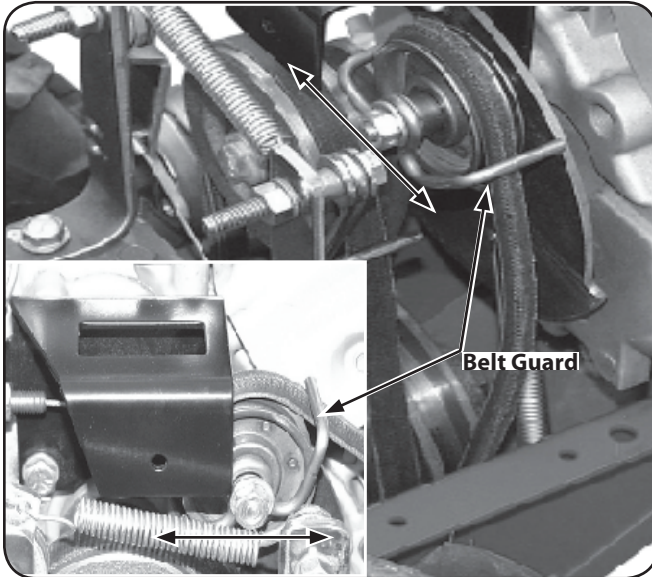

Figure 7-7
9. You will need an assistant to help with this step. Pull the reverse idler pulley up to its highest point and position the belt guide horizontally level as shown in Figure 7-7. Securely tighten the screw and lock nut.